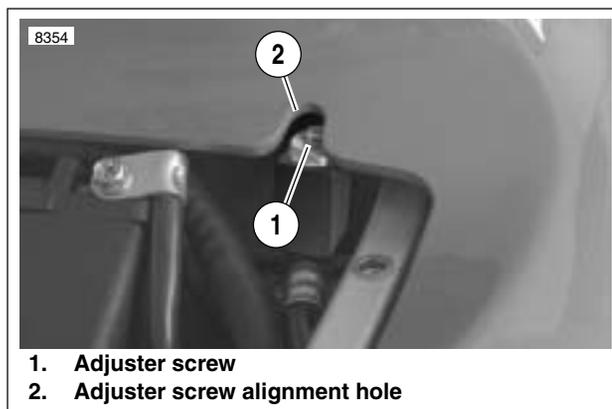

Figure 4-84. Adjuster Screw Alignment
See Figure 4-84. To ensure proper reservoir mounting, temporarily place upper body work onto tail section and adjust reservoir placement so adjuster screw (1) aligns with alignment hole (2).